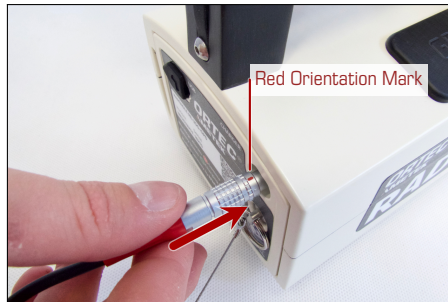

Figure 140: Inserting the external power plug
2. Insert the plug (Fig. 140, p. 114).